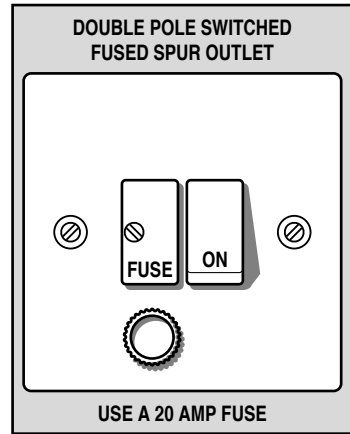
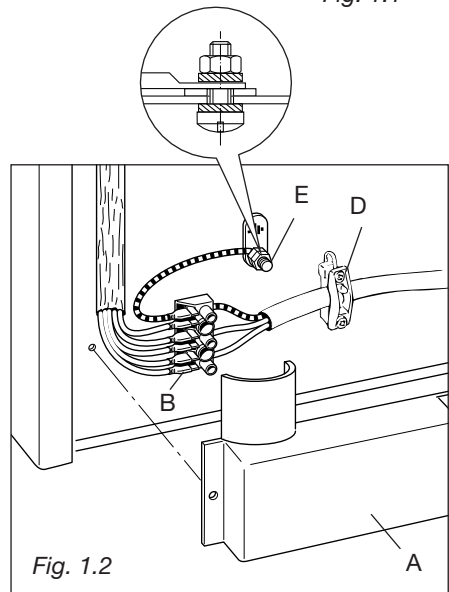

Fig. 1.1
Fig. 1.2
This appliance must be connected to a double pole isolating switch (fig. 1.1) and to the terminal block in the cooker (figs. 1.2 & 1.3) using the following guide:
- Remove the screw that hold shield "A" behind the cooker (fig. 1.2).